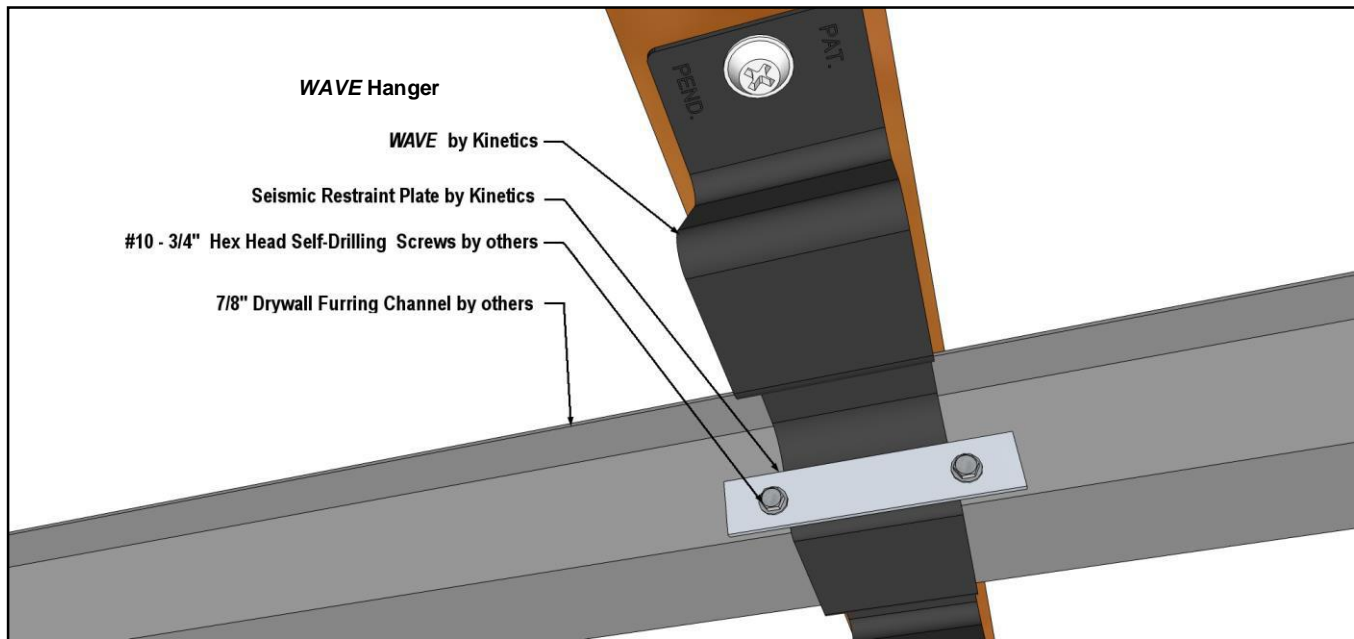

Figure 1: Seismic Restraint Plate Installation for *WAVE* Hanger in seismic zones B-F
- Install one Seismic Restraint Plate (Figure 1) per individual piece of drywall furring channel.